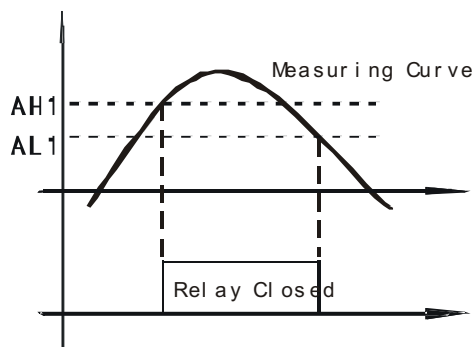

Figure 4
b) Set AH1>AL1 (or AH2>AL2): Normally used for upper limit alarm trigger. See Figure 4.